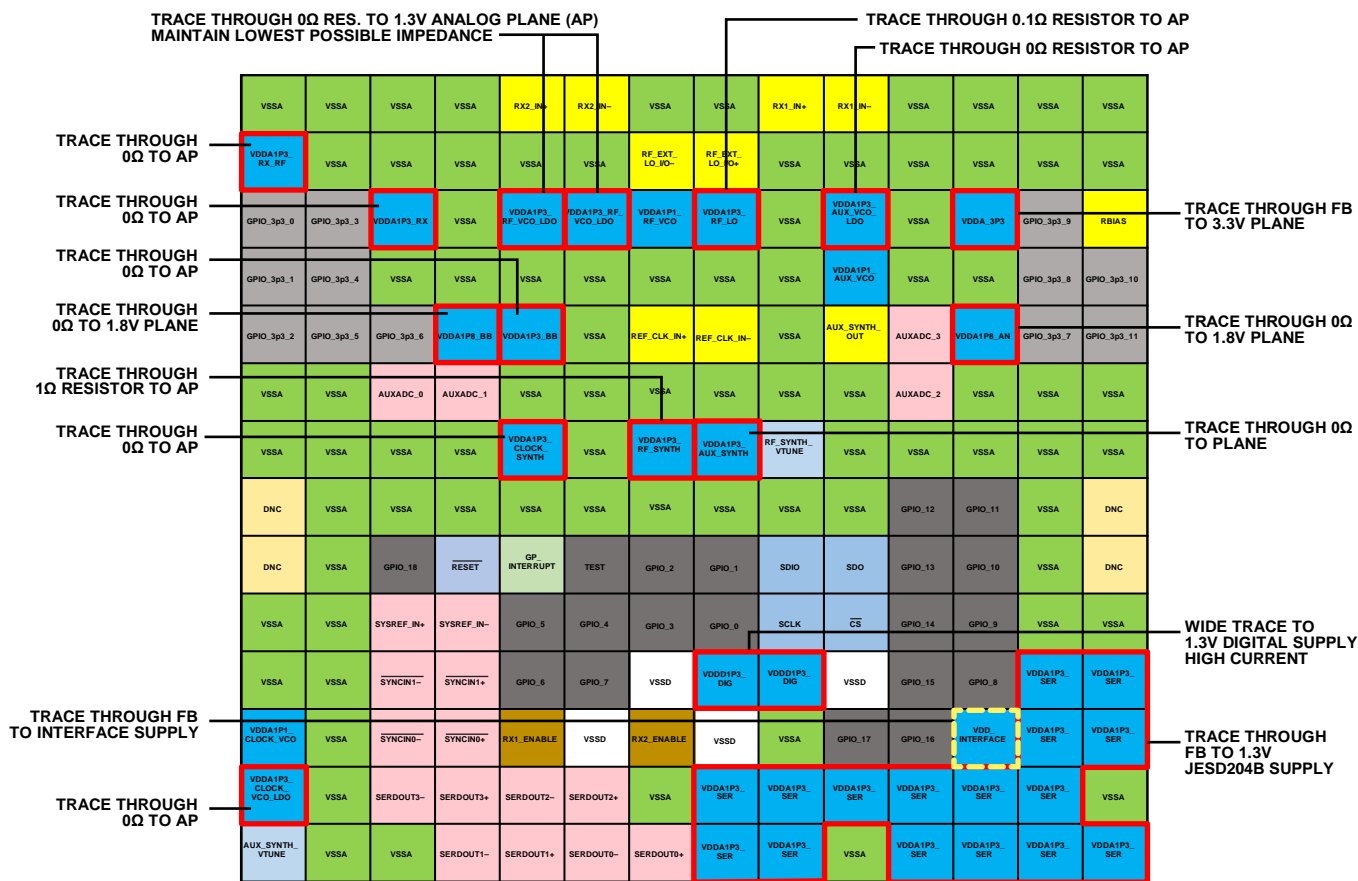

Figure 175. Power Supply Domains Interconnection Guidelines
For domains shown in Figure 175, like the domains powered through a 0  $\Omega$  placeholder resistor or ferrite bead (FB), place the 0  $\Omega$  placeholder resistors or ferrite beads further away from the device. Space 0  $\Omega$  placeholder resistors or ferrite beads apart from each other to ensure the electric fields on the ferrite beads do not influence each other. Figure 176 shows an example of how the ferrite beads, reservoir capacitors, and decoupling capacitors are